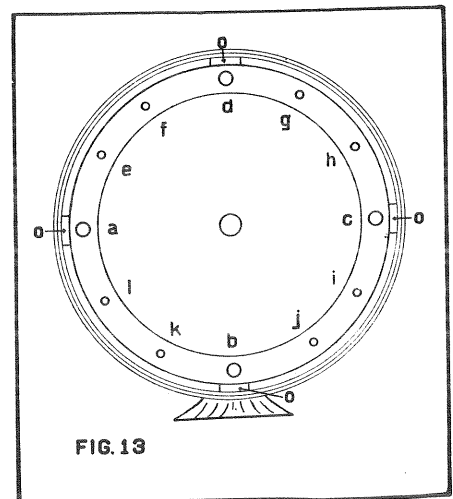

FIG. 13
2. Remove the four screws "a", "b", "c" and "d" shown in Figure 13. When these screws are removed the entire aluminum frame may be removed from the casing. If desirable, the leads may be disconnected, but this is not necessary.
3. Remove the remaining eight screws shown in Figure 13 as "e", "f", "g", "h", "i", "j", "k" and "l".
8. Replace the screws, "e", "f", "g", "h", "i", "j", "k" and "l" (Figure 13). These screws should be tightened down uniformly. Do not seat one screw at a time, but tighten each little by little until all are seated properly.
10. Allow the aluminum frame to rest on the four cleats "O", Figure 13, on the front edge of the casing.
11. Center the frame in the center of the casing and replace the four screws "a", "b", "c", "d", Figure 13.